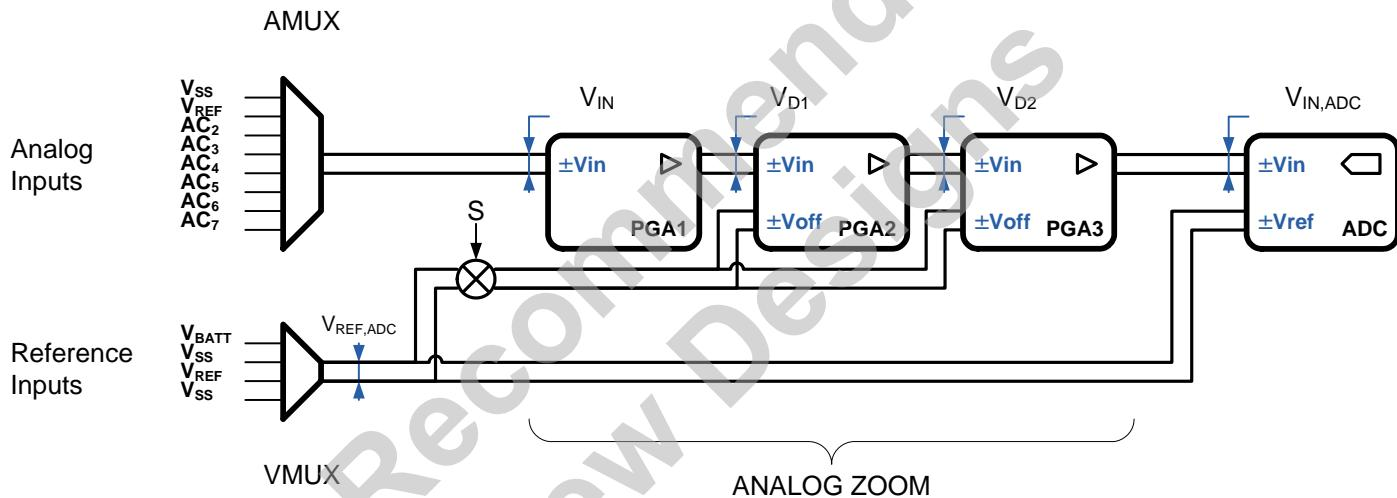

Figure 10. ZADC General Functional Block Diagram
Figure 10, page 18 shows the general block diagram of the acquisition chain (AC). A control block (not shown in **Figure 10**) manages all communications with the I2C peripheral. The clocking is derived from the internal 4 MHz Oscillator.
As seen in Figure 10, page 18, the zooming function is implemented with three programmable gain amplifiers (PGA). These are: